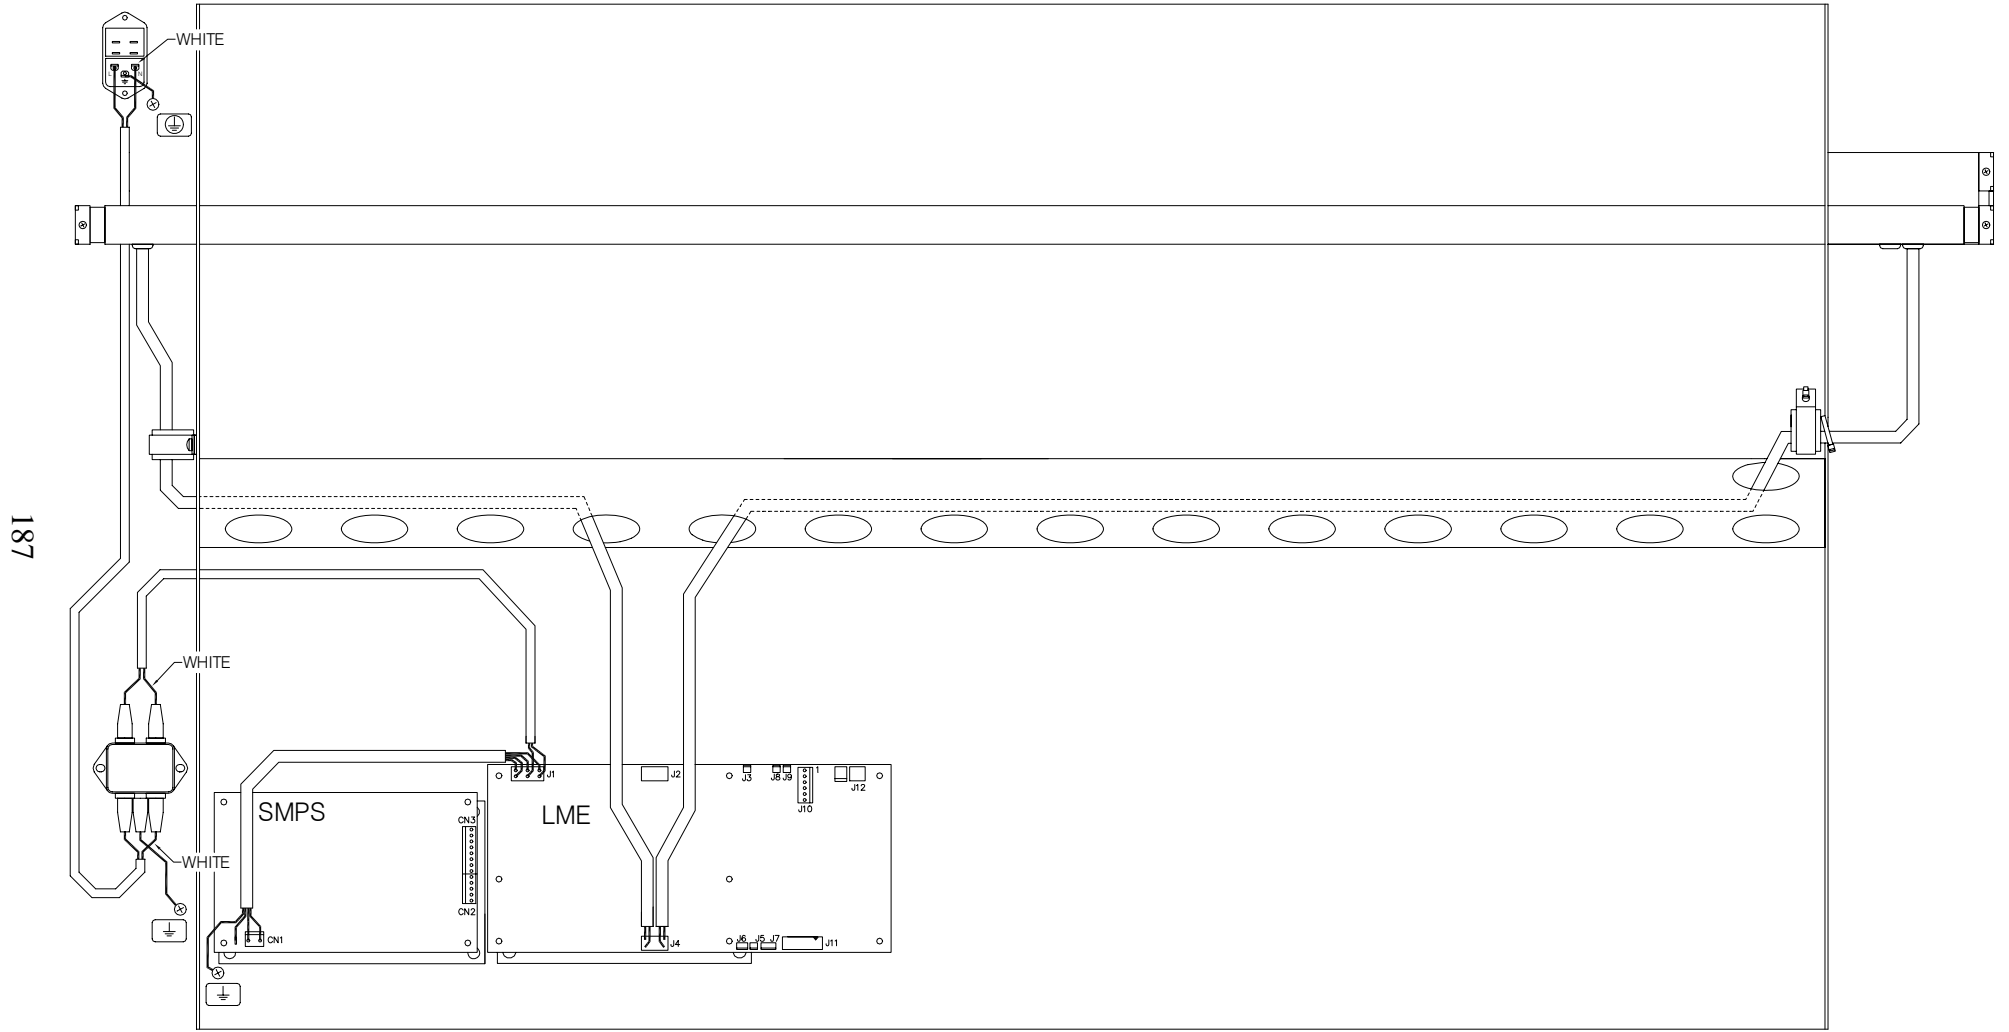

Fig. 11-9 CHROMA Tx 40, CRYSTAL Tx 40, Primary Wiring
- Fig. 11-9 CHROMA Tx 40, CRYSTAL Tx 40, Primary Wiring, page 187